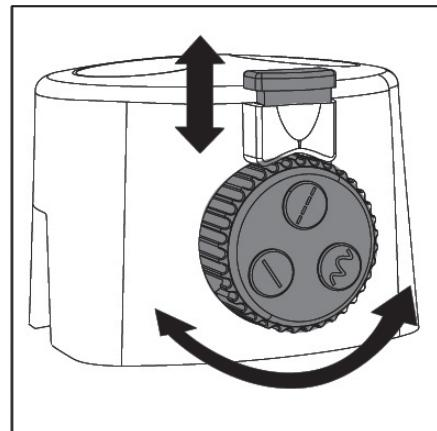

Figure 5
- Pull up the locking switch and turn the rotary toggle to choose the cutting style. After choosing, press down locking switch and it can be ready to use. (see Fig 5)